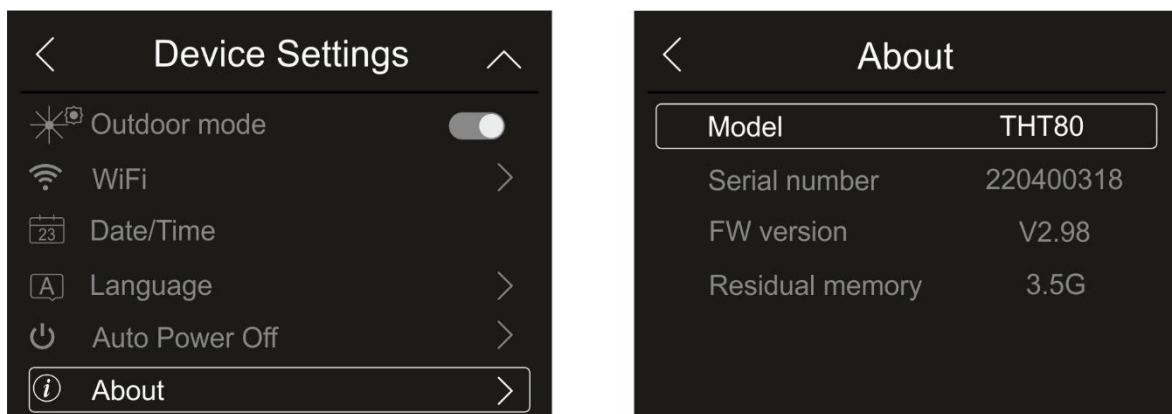

Fig. 22: Information on the instrument
1. Touch the item “About” to display the information about the instrument ad regards: model, serial number, internal Firmware version and available residual memory. The screen in Fig. 22 – right side appears on the display: